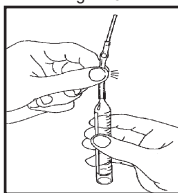

Figure 4
4. Snap the tip of the ampoule at the black snap ring (fig. 4).